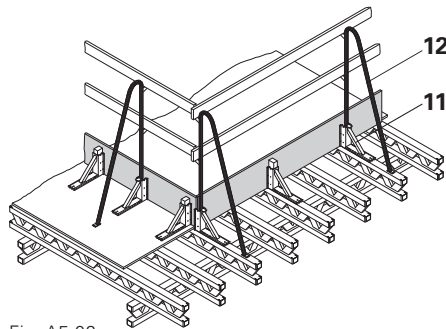

Fig. A5.02
- Insert Handrail Post AW (12) and nail securely at rear end. (Fig. A5.02)